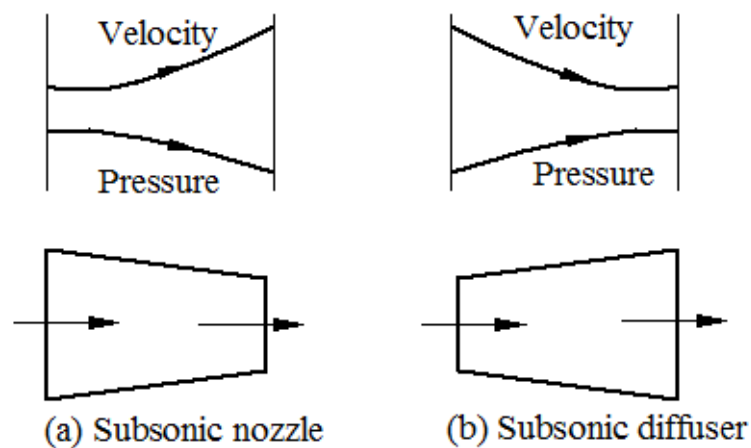

Fig. 2.1 Subsonic nozzle and diffuser
**For subsonic flow ( $M < 1$ )** the quantity  $\left(\frac{1 - M^2}{\gamma M^2}\right)$  is positive. In the nozzle pressure decreases, so the quantity  $\frac{dp}{p}$  is negative; therefore from equation (2.2) the quantity  $\frac{dA}{A}$  is also negative and hence area must decrease for subsonic nozzle in the direction of fluid flow. The shape of the subsonic nozzle (convergent nozzle) is as shown in figure 2.1.
In the diffuser pressure increases, so the quantity  $\frac{dp}{p}$  is positive; therefore from equation (2.2) the quantity  $\frac{dA}{A}$  is also positive and hence area must increase for subsonic diffuser in the direction of fluid flow. The shape of the subsonic diffuser (divergent diffuser) is as shown in figure 2.1.